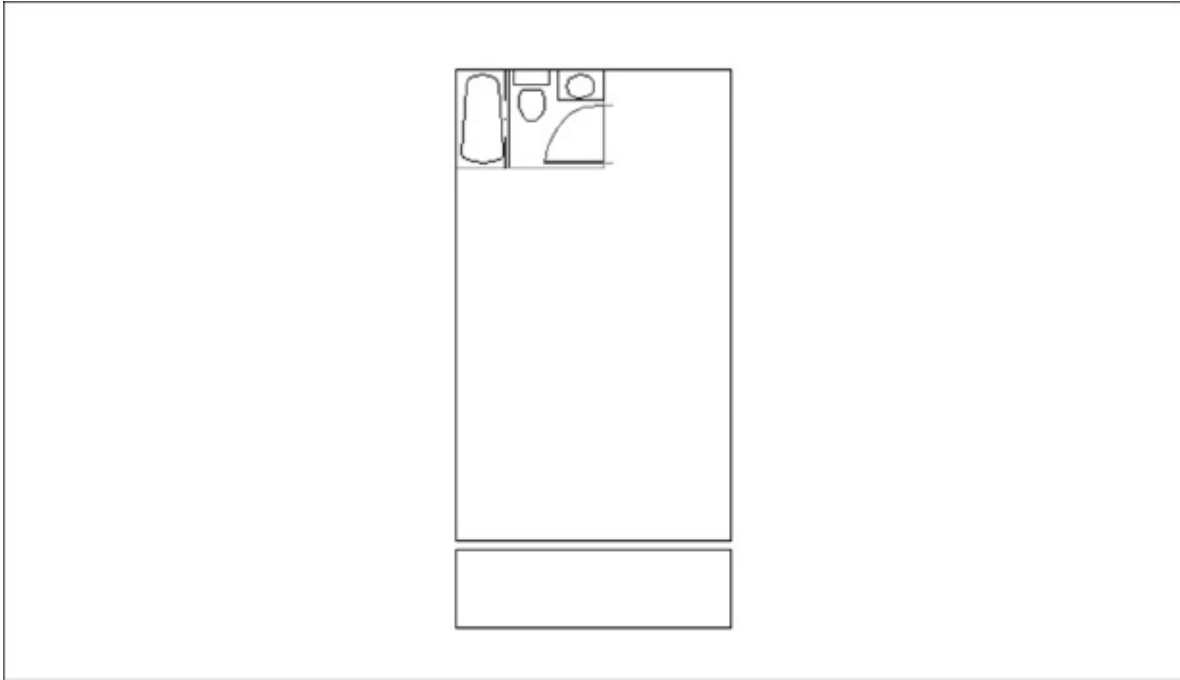

FIGURE 6.18 The unit after the bathroom is inserted
6. Click OK in the Insert dialog box, and then click the upper-left corner of the unit's interior as the insertion point (see Figure 6.18). You can use the Endpoint osnap to place the bathroom accurately. If you are prompted for scale and rotation, use a scale factor of 1.0 and a rotation angle of 0°.